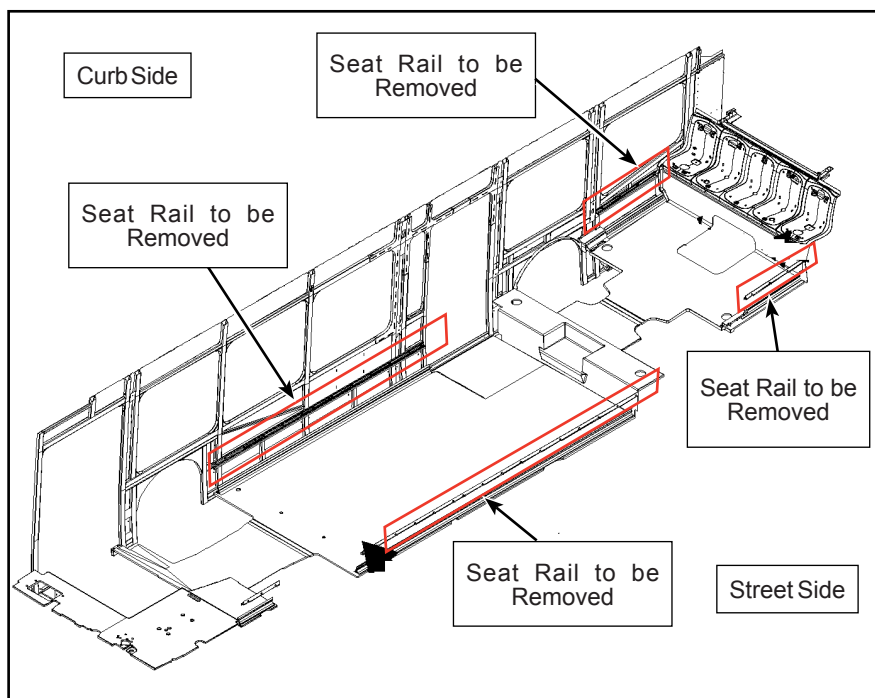

Figure 16 - Installation of New Seat Rail
- 2.5. Replace the cracked seat rail with the new seat rail provided (see Figure 16).